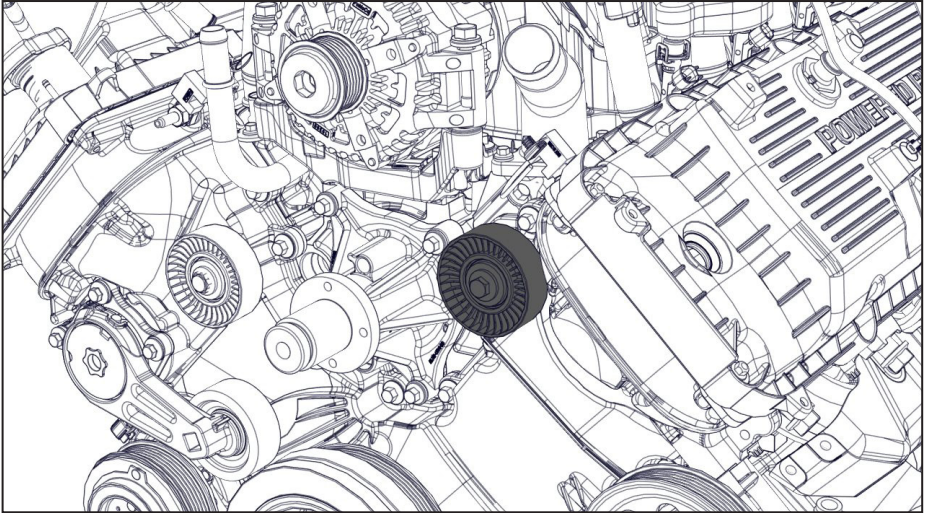

Figure 7 — Remove idler
- ☐ Remove the idler mounted on the driver side head (Figure 7).